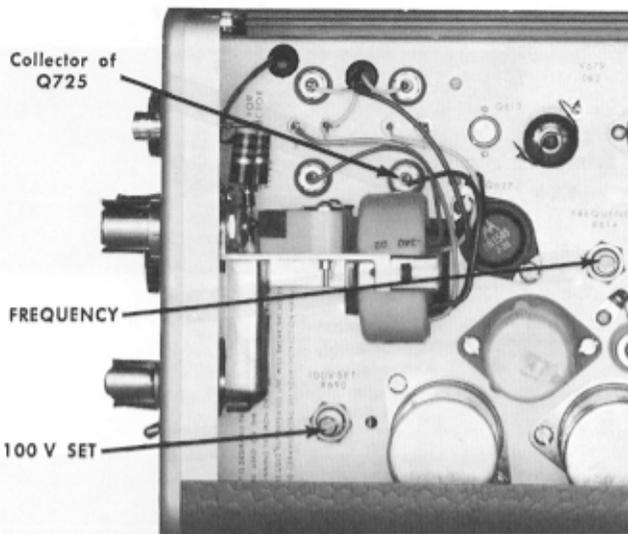
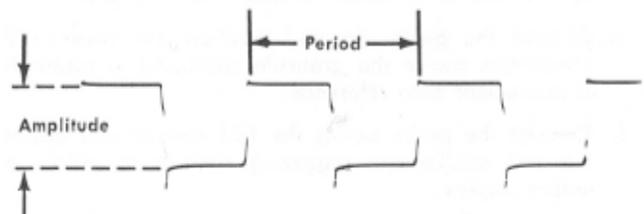

Fig. 6-4. Right side view, front portion of the Type 109, showing the location of the internal adjustments and the test point.
Fig. 6-5. Waveform measuring points.
- First, rotate the FREQUENCY control (see Fig. 6-4) fully clockwise and check the waveform according to the data given in Table 6-3 and Fig. 6-5. (Use the graticule markings on your test oscilloscope to determine the period and amplitude of the waveform.)
(1) Fully clockwise	2.77 cm or less	360 cps or more	18 volts
(2) Fully counter clockwise	3.6 cm or more	275 cps or less	12 volts
- Then, rotate the FREQUENCY control fully counter-clockwise and check the minimum frequency range based on the information given in Table 6-3 and Fig. 6-5.